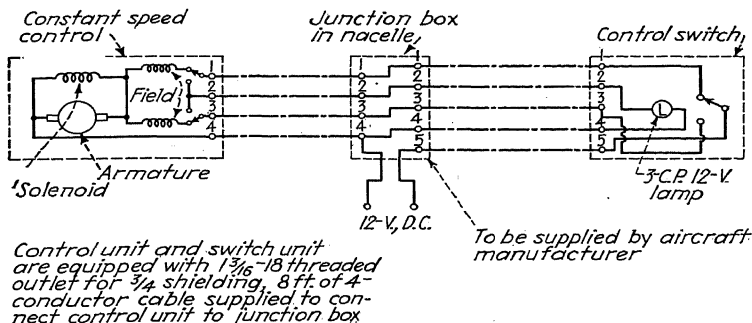

Fig. 25.—Wiring diagram of electrically controlled constant-speed unit.
**Electrically Controlled Units.**—Electrically controlled constant-speed units use 12- and 24-volt direct current. The wiring diagram is seen in Fig. 25. The electric unit is mounted on the standard pad on the nose of the engine, in the same way as the mechanically controlled unit. No outside